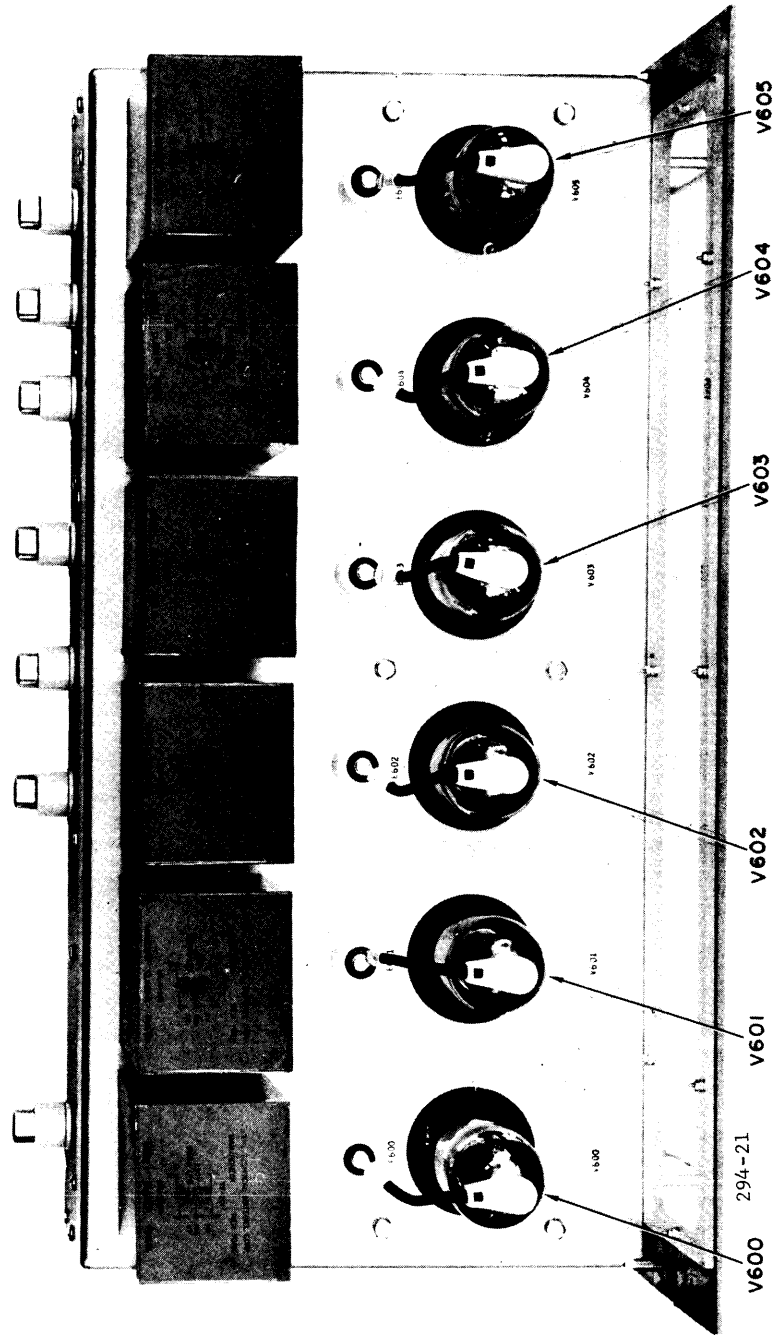

Figure 4-19. High Voltage Rectifier Drawer 600, Top View
- b. Insert six high voltage rectifier tubes V600 through V605 (contained in crate 1), figure 4-19, into tube sockets in high voltage rectifier drawer.